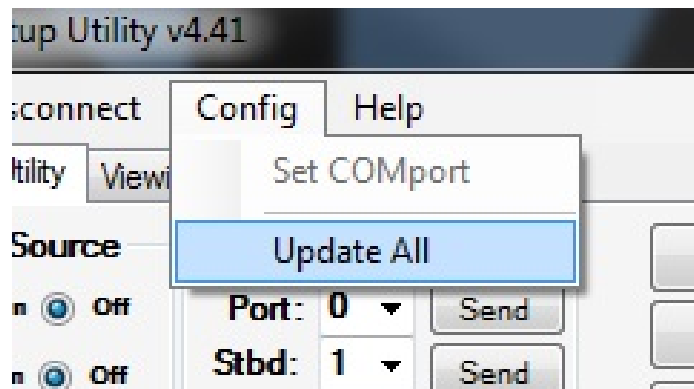

Figure 12. Update All Command
- Figure 12- Update All Configuration Command
If you want to update everything to the RS11 all at once, there is simpler way than pushing every "Send" button in the Utility. Under the "Config" menu item, select "Update All" to send the entire current configuration to the RS11 (see Figure 12). This will first erase the entire configuration inside the RS11 and replace it with the current settings of the "Setup Utility". By using the individual "Send" buttons or the "Update All" command,